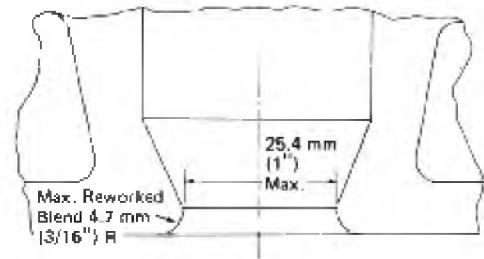

Fig. 2-6 - Injector Hole Rework
2. Do not exceed maximum injector hole diameter or maximum allowable blend radius, Fig. 2-6.